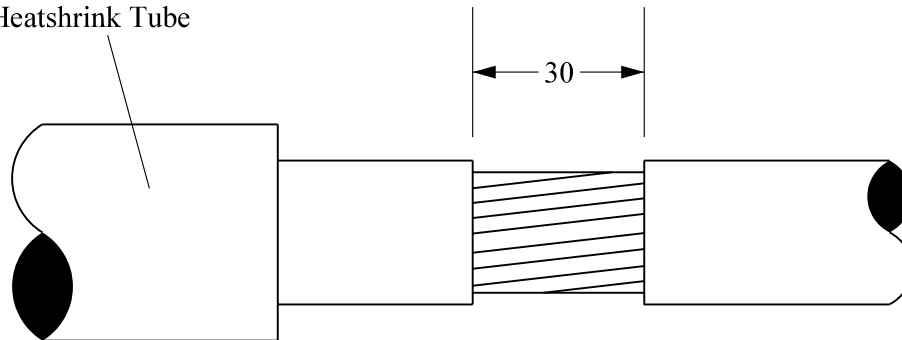

Fig 1.
2. At a suitable distance (i.e. position of temporary earth continuity bond) from the proposed end of the outer joint sleeve remove a 30mm length of MDPE oversheath – Fig 1.